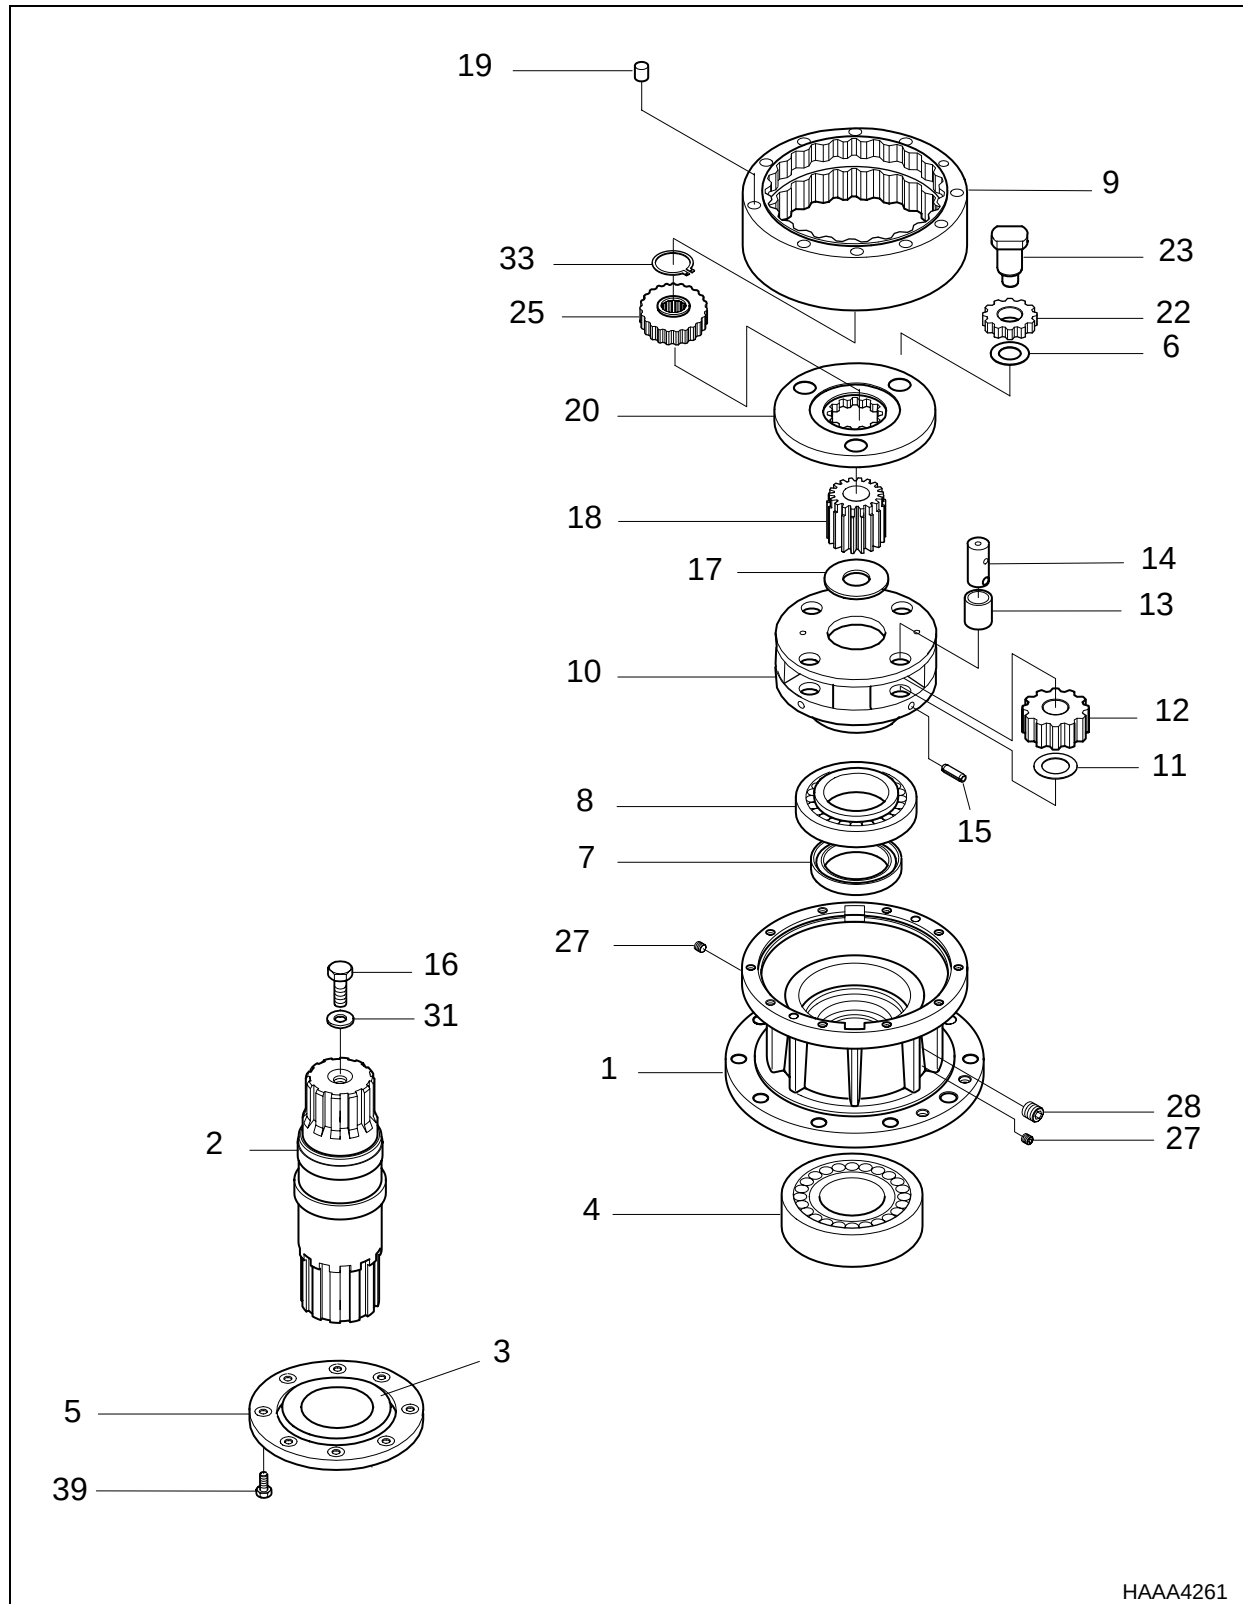
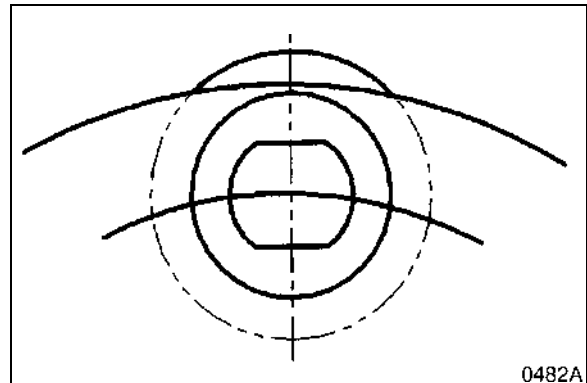
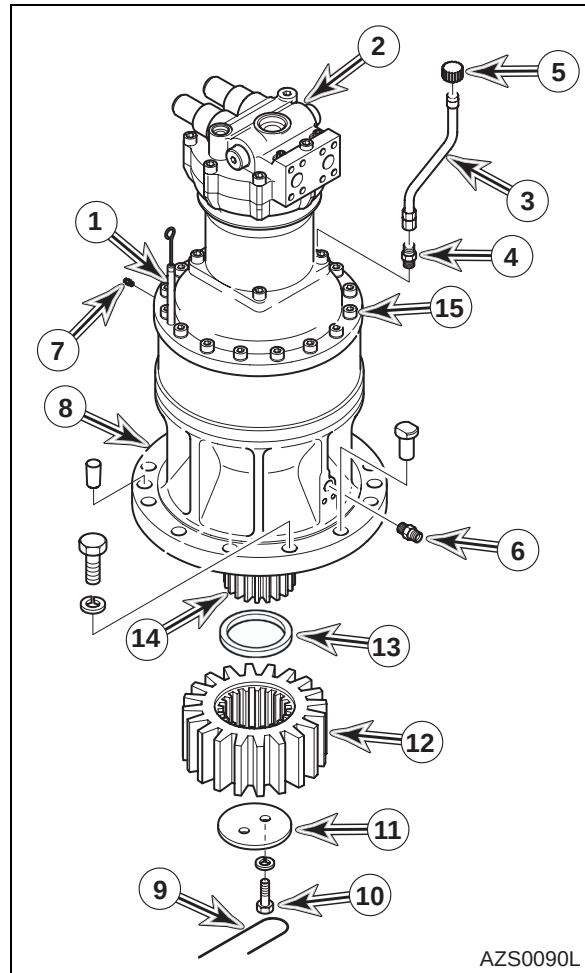

Figure 11
Figure 12
Figure 15 SOLAR 470LC-V
1. Install two plugs (27, Figure 11) and plug (28) in front casing (1), if replacement was necessary.
2. Press oil seal (7, Figure 11) into casing (1).
3. Press roller bearing (8, Figure 11) into casing (1).
4. Press roller bearing (4, Figure 11) on drive shaft (2).
5. Press drive shaft (2, Figure 11) and roller bearing (4) into casing (1).
NOTE: Press on outer race of bearing (4, Figure 11) and pinion gear end of shaft (2) at the same time. Be careful not to damage threaded holes in end of shaft.
NOTE: Make sure that bearing (8, Figure 11) remains seated on shoulder.
6. Hand pack bearing (4, Figure 11) and grease cavity with grease. Rotate drive shaft to ensure that bearing is coated with grease.
7. Install plate (3, Figure 11) in cover plate (5).
8. Secure cover plate (5, Figure 11) to casing (1) with eight bolts (39, Figure 11).
9. Assemble No. 2 carrier (10, Figure 11).
- A. Position No. 2 bushing (13, Figure 11) in No. 2 planet gear (12). Position gear and bushing, No. 2 thrust washer (11) and No. 2 pin (14) in No.2 carrier (10).
- B. Align spring pin hole in No. 2 pin (14, Figure 11) with hole in No. 2 carrier (10).
NOTE: Figure 12, shows how end of holes in pin (14, Figure 11) should be turned, in relation to the drive shaft.
- C. Press spring pin (15, Figure 11) into No. 2 carrier (10) and No. 2 pin (14).
18. Align match marks and position swing motor (2, Figure 15) on gearbox (8). Install twelve socket head bolts (15) to secure swing motor to gearbox.
NOTE: Coat mating faces of swing motor (2, Figure 15) and ring gear (3, Figure 11) with Loctite #609.
19. Coat I.D. of spacer ring (13, Figure 15) with Loctite #609. Slide spacer into position on drive shaft (14).
NOTE: Make sure that Loctite does not come into contact with oil seal (33, Figure 11) or an leak failure may occur.
20. Install lock plate (11, Figure 15), four lock washers and drilled head bolts (10) on drive shaft (14).
21. Use lock wire (9, Figure 15) to secure drilled head bolts (10) into position.
22. Install adapters (6 and 7, Figure 15) in gearbox (8). (Solar 470LC-V)
Install reducer and drain cock (not shown) in gearbox (8, Figure 15). (S450LC-V)
23. Install breather (5, Figure 15) on breather pipe (3) if remove during disassembly.
24. Install adaptor (4, Figure 15) and breather pipe (3, Figure 15) in swing motor (2).
25. Install dipstick tube (1, Figure 15) and oil level dipstick on swing motor (2).